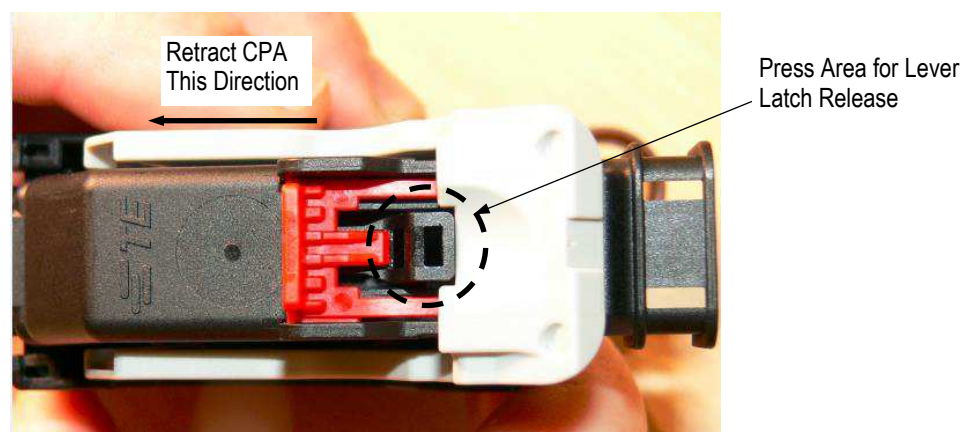

Figure 7
1. Slide the CPA away from the lever latch until it stops. The CPA is now in the open position. See Figure 7.